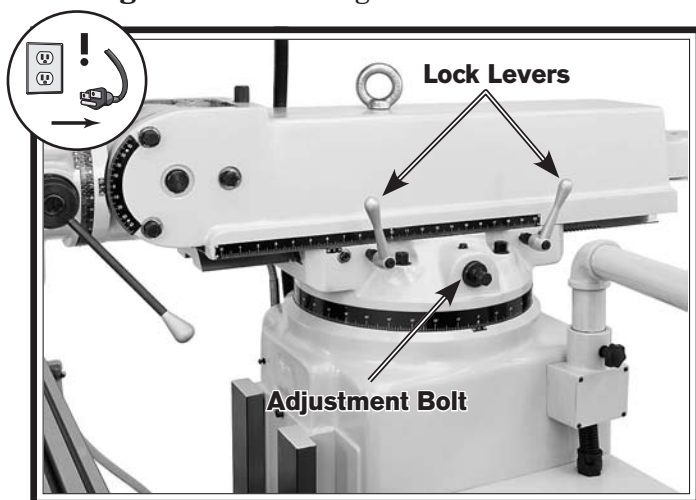

Figure 34. Ram forward and backward movement controls.
2. Loosen the two lock levers shown in **Figure 34** on the right side of the ram.